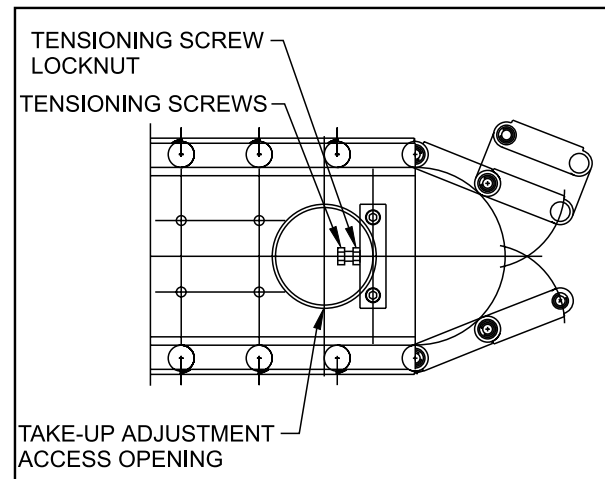

Fig. 1. Removing link.
3. Once the locking screws have been loosened, remove the round access cover for the tension adjusting screw and back off the tensioning screws two turns. Refer to Figure 1.